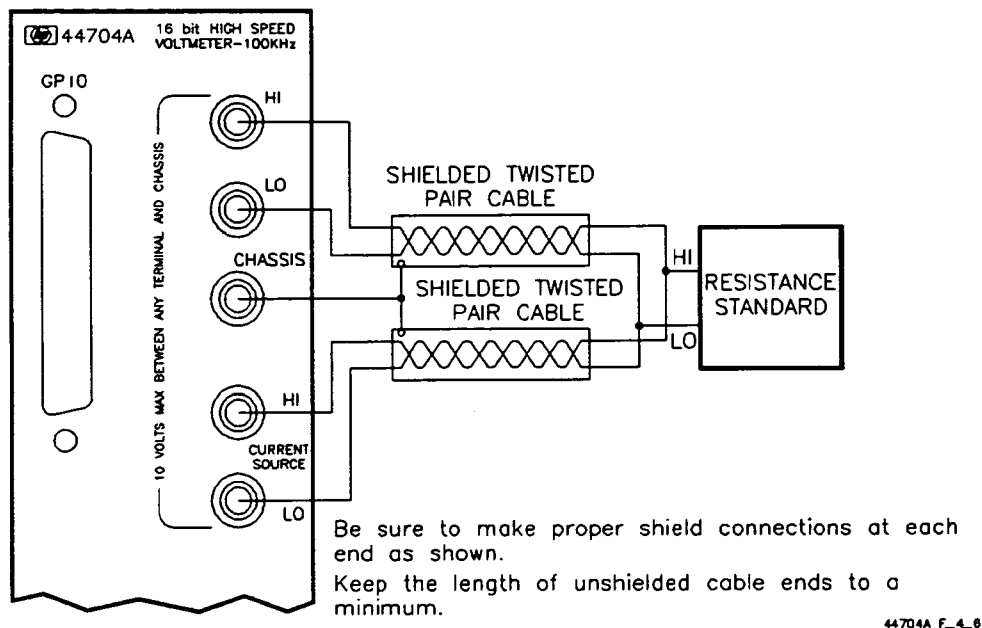

Figure 5-2. Ohms Gain Adjustment Setup
1. Connect the Resistance Standard to the voltmeter as shown in Figure 5-2. Set the output to 10k Ω (recommended value).